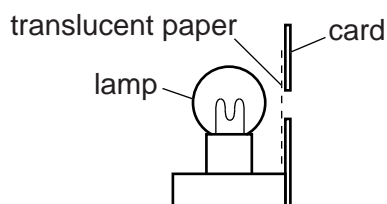

Fig. 3.1
- (ii) Illuminated object made from stiff white card with a triangular hole of height 1.5 cm (see Figs. 3.1 and 3.2). The hole is to be covered with thin translucent paper (e.g. tracing paper). See notes 1 and 2.